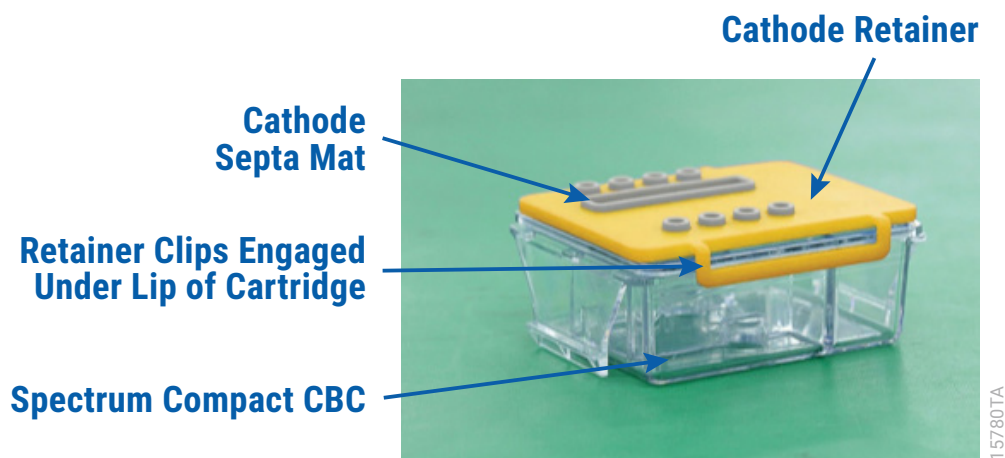

Figure 20. Assembled Spectrum Compact CBC.
- Attach the retainer on top of the septa, making sure that the heads of the septa protrude through the holes in the retainer. Make certain that clips on the side of the retainer are fully engaged under the lip at the top of the Spectrum Compact CBC (Figure 20).